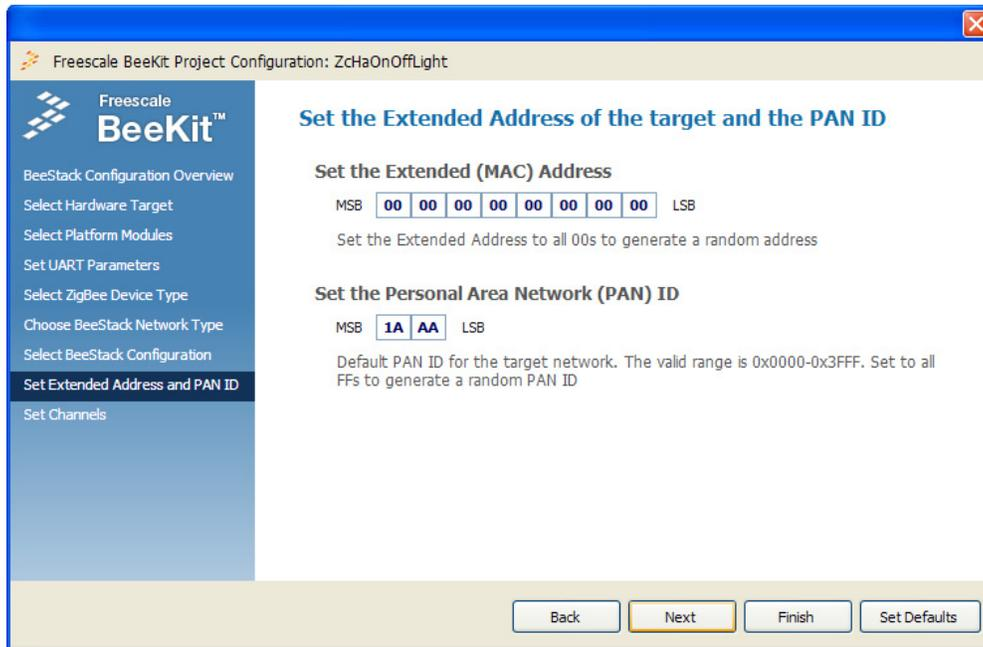

Figure 3-11. Extended Address and PAN ID Selection Page
14. The Extended address and PAN ID page appears as shown in Figure 3-11.